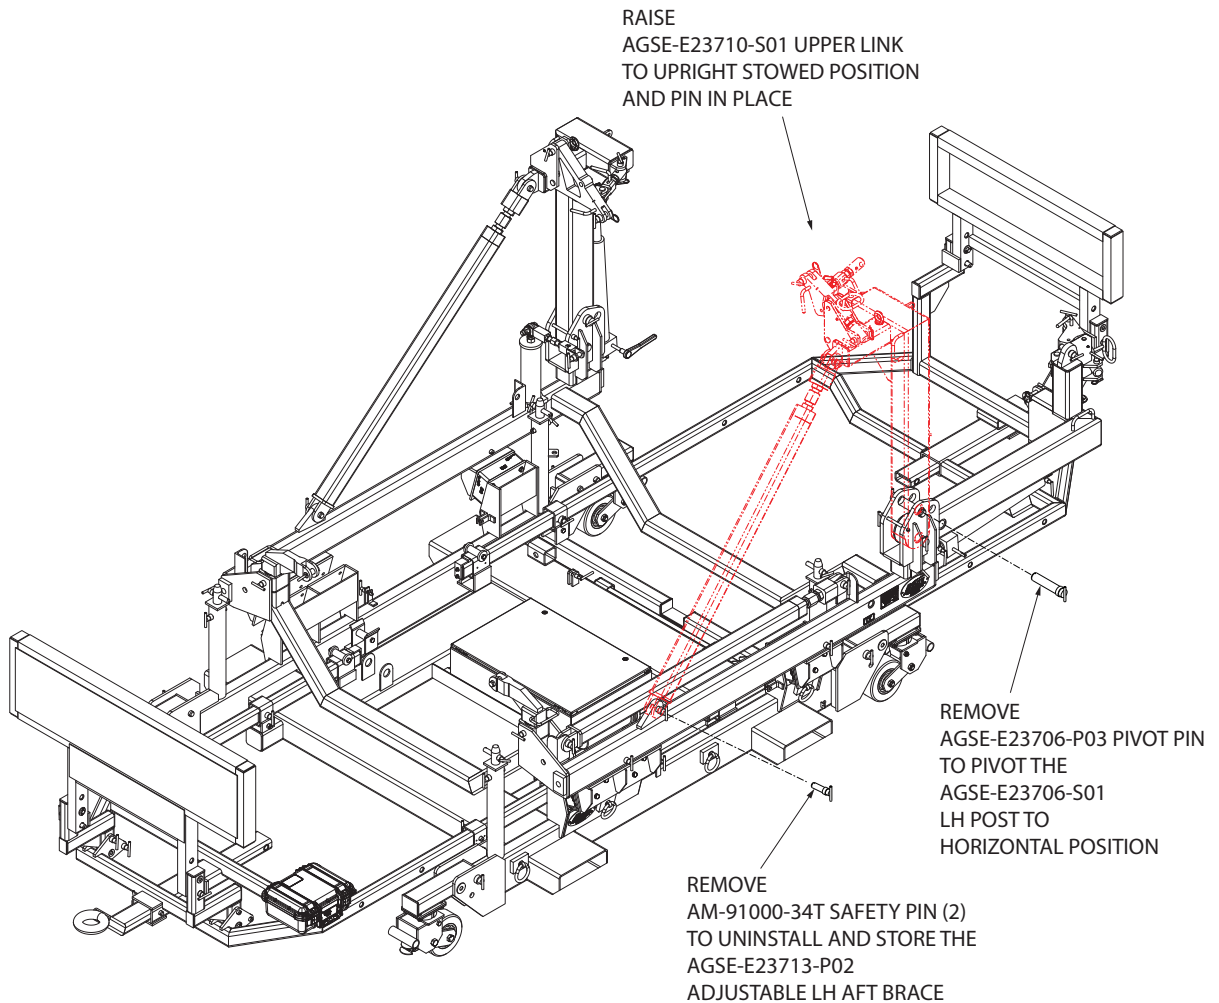

Figure 5.2-1
5.2 Engine Installation (Figures 5.2-1 through 5.2-4)